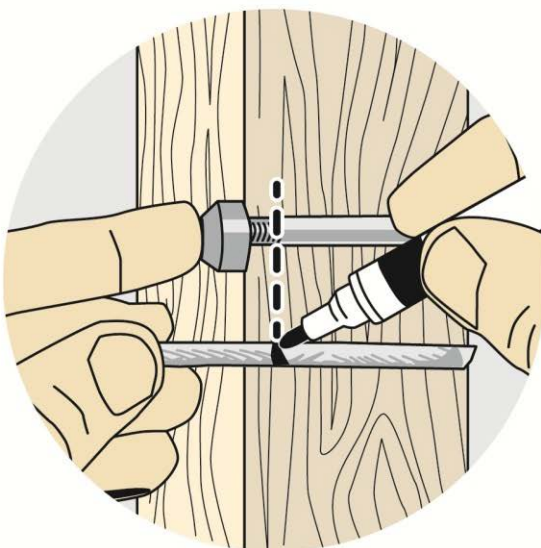
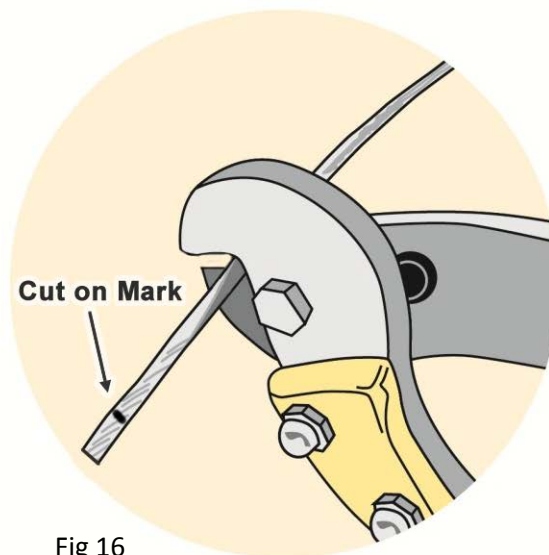

Fig 15
Fig 16
- Position the Swage Button End on the outside face of the post, pull all slack out and hold cable adjacent to the Swage Button End. Mark the cable where it matches mark on the Swage Button End (Fig. 15). Cut cable to its final length (Fig. 16).
- Cut cable to its final length (Fig. 16).